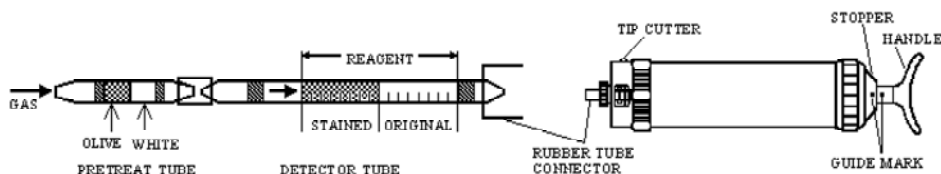

Fig.1
- ① Break both ends of detector tube and pretreat tube, and connect each end of the detector tube and pretreat tube with rubber tube connector as shown in Fig.1.
- ② Insert the detector tube into aspirating pump securely as shown in Fig.1. (Arrow mark shall point to the pump.)
- ③ Align the guide marks on the shaft and stopper of the aspirating pump.
- ④ Pull the pump handle at full stroke until it locks and wait for 1.5 minutes or until the completion of sampling is confirmed with the flow indicator of the pump (See descriptions about the flow indicator in the instructions of the pump).